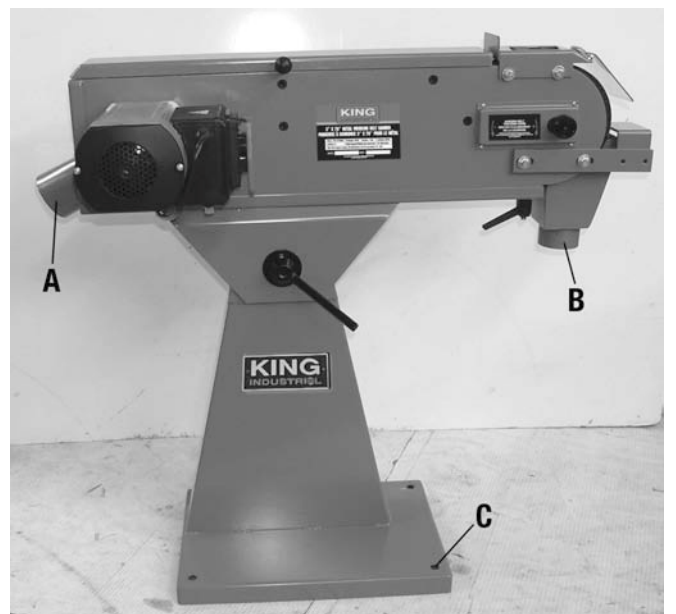

FIGURE 6
This metal belt sander features two 3" dust ports (A & B) Fig.6 for dust collection. Connect fire rated hoses to the dust ports and a metal dust collector. For your own safety, and to prevent risks of fire, make sure the dust collection system as well as the hoses are fire rated for metal dust collection.
Once this machine is completely assembled, it is highly recommended to secure the base of this metal belt sander to the shop floor (Floor securing hardware not included). The base features four mounting holes (C) Fig.6, make sure the machine is positioned in an ideal working location and the base is level before securing base.